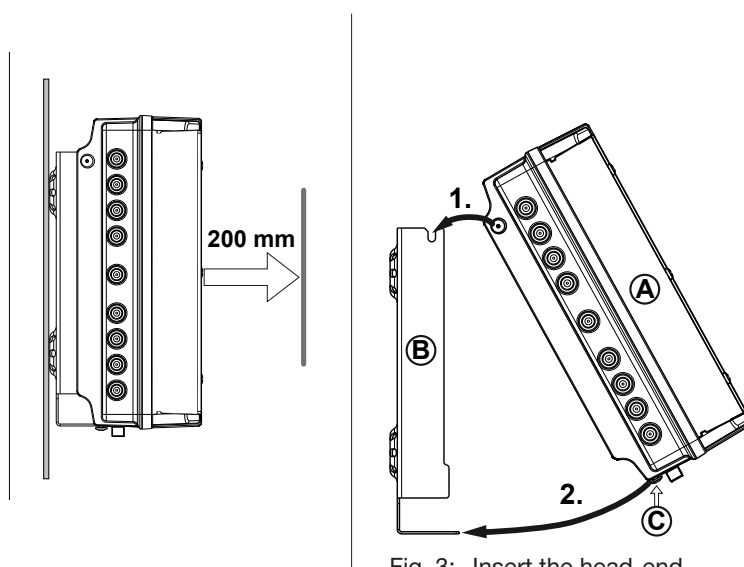

Fig. 3: Insert the head-end
1. Mount the wall mounting plate horizontally on the mounting surface; see ⑥ in Fig. 3. Points to note:
2. Insert the head-end ① into the wall mounting plate ⑥; see Fig. 3.
3. Tighten the screw ③.